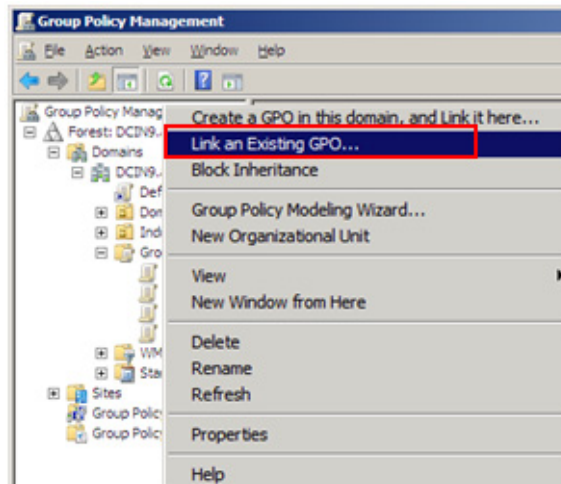

Figure 44. Linking an Existing GPO
5. Select the **Domain Controllers** organization unit (folder) in the **Group Policy Management** console and select **Link an Existing GPO** (refer to Figure 44).